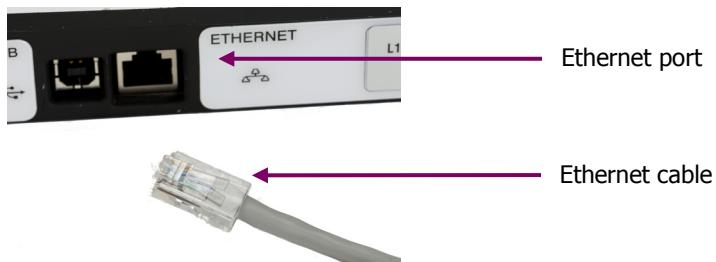

Figure 22 Ethernet cable connected to the ETHERNET port
2. Plug one end of an Ethernet cable into the ETHERNET port on the rear of the instrument (Figure 22).
NOTE: For AssureID, configure the PC network adaptor, connect your spectrometer as shown in Figure 22, start AssureID, and then run the Instrument Install Wizard (see page 44). Refer to the *AssureID Administrator's Guide* (part number L1050019) for more information.